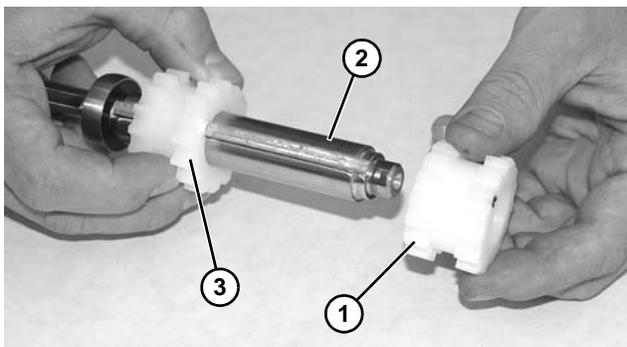

Figure 70
3. Slide free moving sprocket(s) (**Figure 70, item 1**) off the end of pulley (**Figure 70, item 2**).
4. Measure location of fixed sprocket (**Figure 70, item 3**), loosen set screw, and remove fixed sprocket.